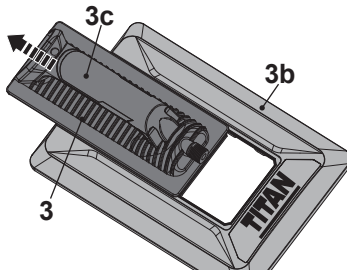

Fig. 3
3. Grasp the steam plate handle (3c) and slide the steam plate (3) out of the track of steam plate apron (3b) (Fig. 3).